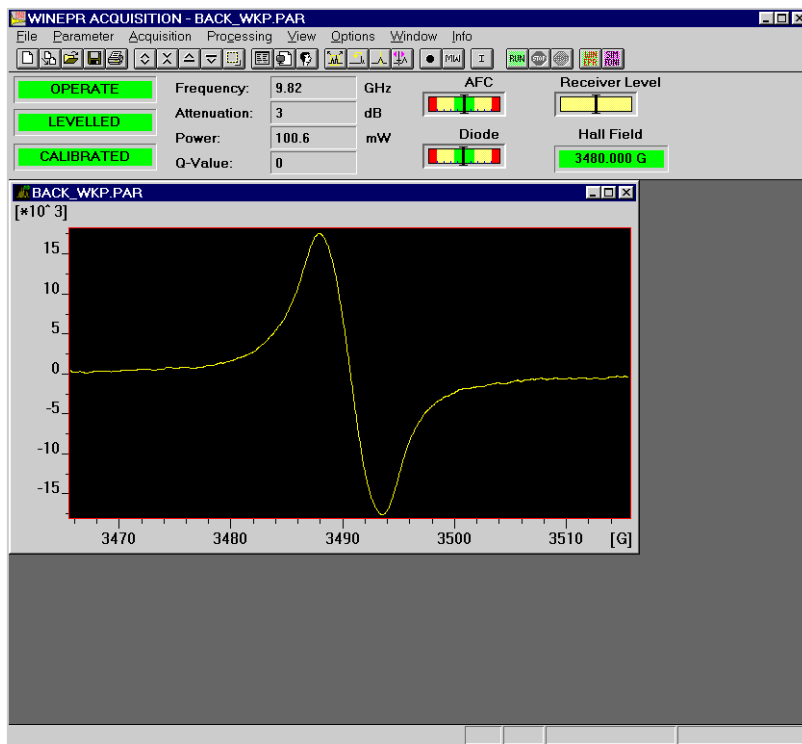

Figure 9-12 Acquire a weak pitch signal.
4. **Acquire a weak pitch spectrum.** Click the RUN button in the tool bar to acquire a weak pitch spectrum. (See Figure 9-12.)